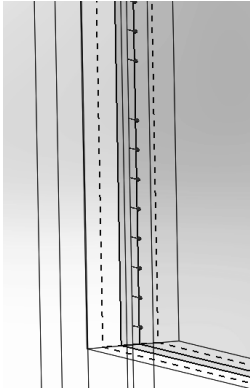
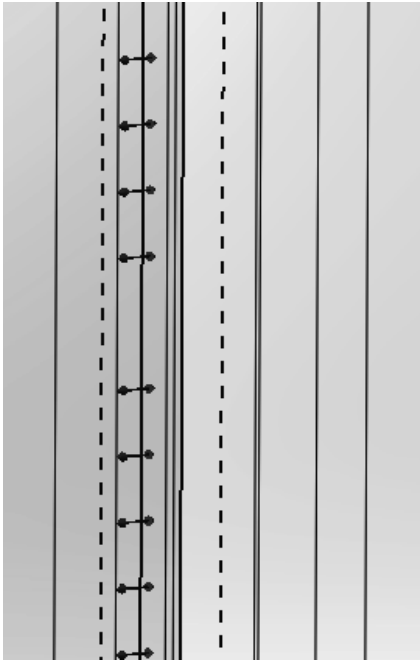

Figure 2.17d) Inlet velocity boundary condition indicated by arrows
Figure 2.18b) Outlet static pressure boundary condition
18. Red arrows pointing in the flow direction appears indicating the inlet velocity boundary condition; see figure 2.17d). Right click in the graphics window and select **Zoom to Fit**. Right click again in the graphics window and select **Rotate View** once again to rotate the part so that the inner right surface is visible in the graphics window. Right click and click on  **Select**. Right click on  **Boundary Conditions** in the **Flow Simulation analysis tree** and select **Insert Boundary Condition...** Right click on the outflow boundary surface and select **Select Other**. Select the Face corresponding to the outflow boundary. Click on the **Pressure Openings** button in the **Type** portion of the **Boundary Condition** window and select **Static Pressure**. Click OK to exit the window. If you zoom in on the outlet boundary you will see blue arrows indicating the static pressure boundary condition; see figure 2.18b).